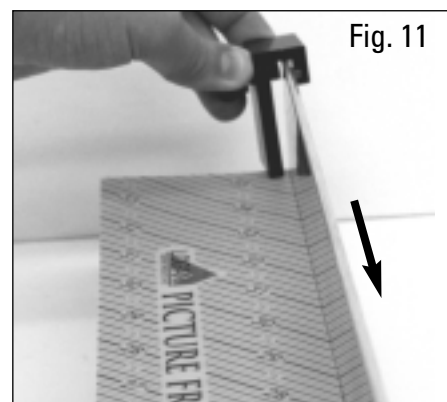

Fig. 11
- a. Slide moulding stop onto fence (Fig. 11).